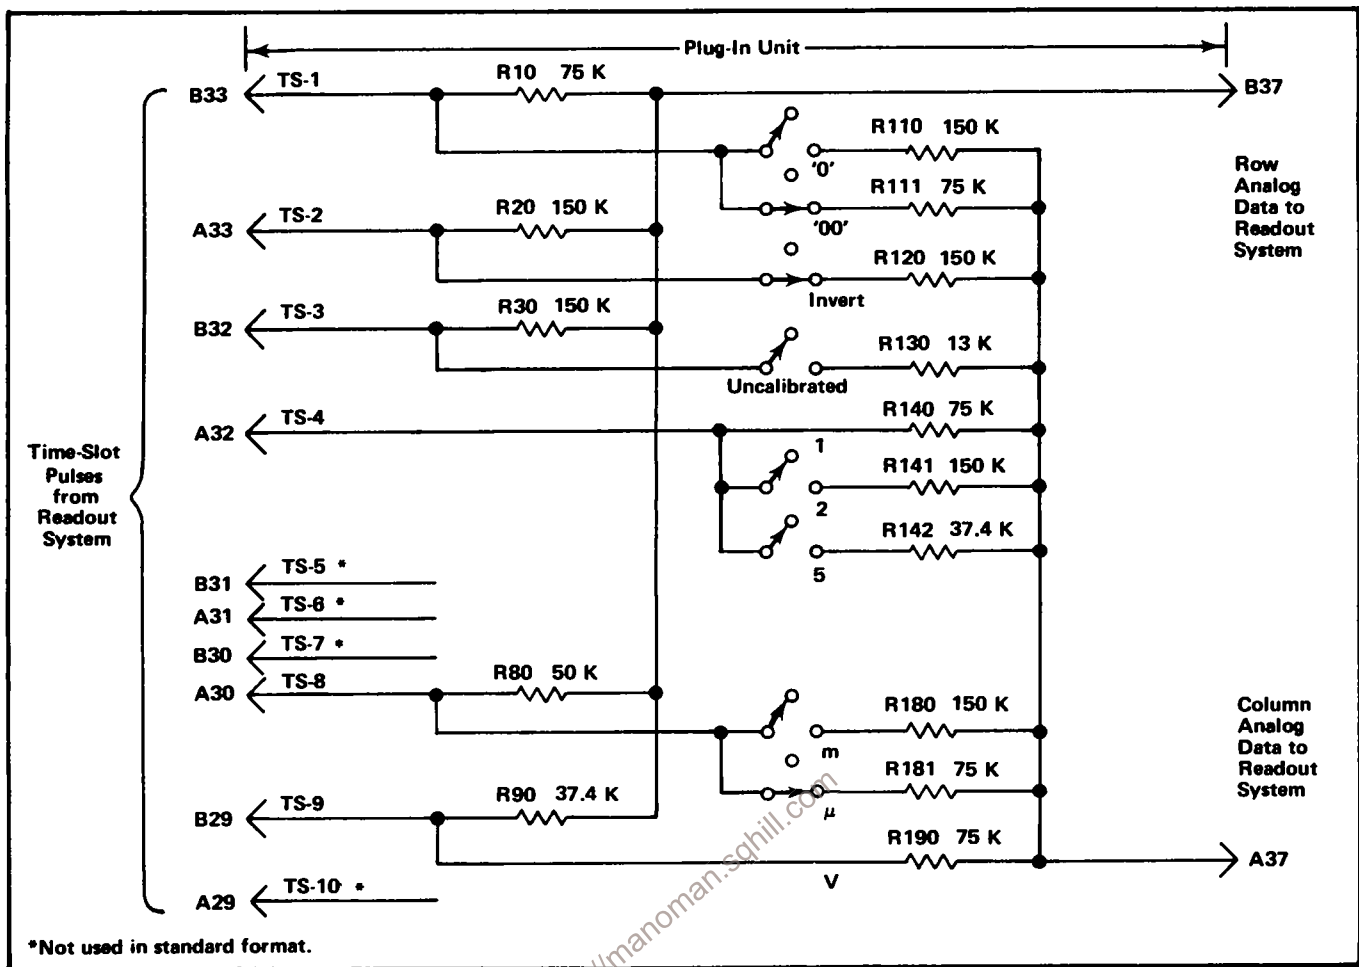

Fig. 4-32. Typical encoding scheme for voltage-sensing amplifier plug-in unit. Coding shown for deflection factor of 100 microvolts.
Data is conveyed from the plug-in units to the Readout System in the form of an analog code having up to 11 current levels (from zero to one milliamperere in 100 microampere steps). The characters which can be selected by the encoded data are shown on the Character Selection Matrix (see Fig. 4-25). Each character requires two currents to define it; these currents are identified as the column current and the row current which correspond to the column and row of the matrix. The column and row data is encoded by resistive programming in the plug-in units. Fig. 4-32 shows a typical encoding scheme for a voltage-sensing amplifier plug-in unit. Notice that the 10 time-slot (TS) pulses produced by the Time-Slot Counter stage are connected to the plug-in unit. However, time-slots 5, 6, 7, and 10 are not used by the plug-in unit to encode data when using the Standard Readout Format (see Table 4-2 for Standard Readout Format). The amplitude of the time-slot pulses is exactly -15 volts as determined by the Timer stage. Therefore, the resultant output current from the plug-in units can be accurately controlled by the programming resistors in the plug-in units.
For example, in Fig. 4-32, resistors R10 through R90 control the row analog data which is connected back to the Readout System. These resistors are of fixed value and define the format in which the information will be presented by the Readout System. Fig. 4-33A shows an idealized output current waveform of row analog data which results from the 10 time-slot pulses. Each of the steps of current shown in these waveforms corresponds to 100 microamperes of current. The row numbers on the left-hand side of the waveform correspond to the rows in the Character Selection Matrix shown in Fig. 4-35. The row analog data is connected back to the Readout System via terminal B37 of the plug-in interface.
The Column analog data is defined by resistors R110 through R190. The program resistors are connected to the time-slot lines by switch closures to encode the desired data. The data as encoded by the circuit shown in Fig. 4-32 indicates a 100 microvolt sensitivity with the display inverted and calibrated vertical deflection factors. This results in the idealized output current waveforms shown in Fig. 4-33B at the column analog data output, terminal A37 of the plug-in interface. Resistor R111, connected between time-slot 1 and the column analog data output, encodes two units of current during time-slot 1. Referring to the
connectors of vertical plug-in units. A special coding ring around the input connector of the plug-in unit senses the attenuation ratio of the probe (with readout-coded probes only). The probe contains a resistor which results in additional column current. For example, if a 10X attenuator probe is connected to a plug-in with the coding for 100 microvolts as shown in Fig. 4-32, an additional unit of current is added to the column analog data during time-slot 1. Since two units of current were encoded by R111 (see Fig. 4-32), this additional current results in a total of three units of column analog current during this time-slot. Referring to the Character Selection Matrix, three units of column current along with the two units of row current encoded by R10 indicates that the prefix should be reduced. Since this instruction occurs in the same time-slot which previously indicated that two zeros should be added to the display and only one instruction can be encoded during a time-slot, the zeros do not appear in the display. The CRT readout will now be changed to 1 mV (readout) program produced by plug-in same as for previous example.